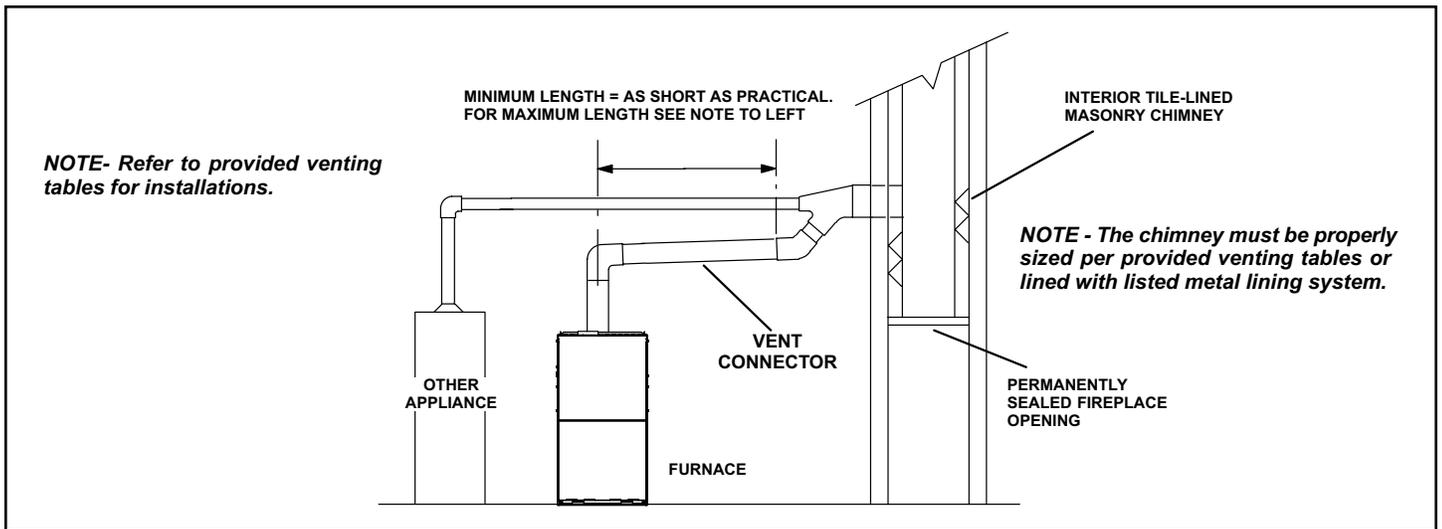

Figure 17. Common Venting Using Tile-Lined Interior Masonry Chimney and Combined Vent Connector
- Masonry chimneys used to vent Category I central furnaces must be either tile lined or lined with a listed metal lining system or dedicated gas vent. Unlined masonry chimneys are prohibited. See Figure 15 and Figure 17 for common venting.